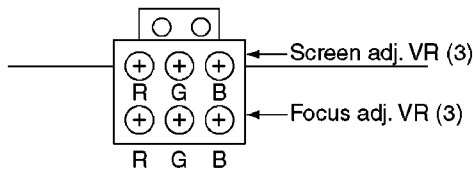

Fig. 2
4. Adjust the Red, Blue and Green focus VR on the focus block for best focus of overall picture of each CRT. (Fig. 2)
The electrical focus controls are located on the front. Adjust the Green Focus VR for best focus of overall picture. (Fig. 2)